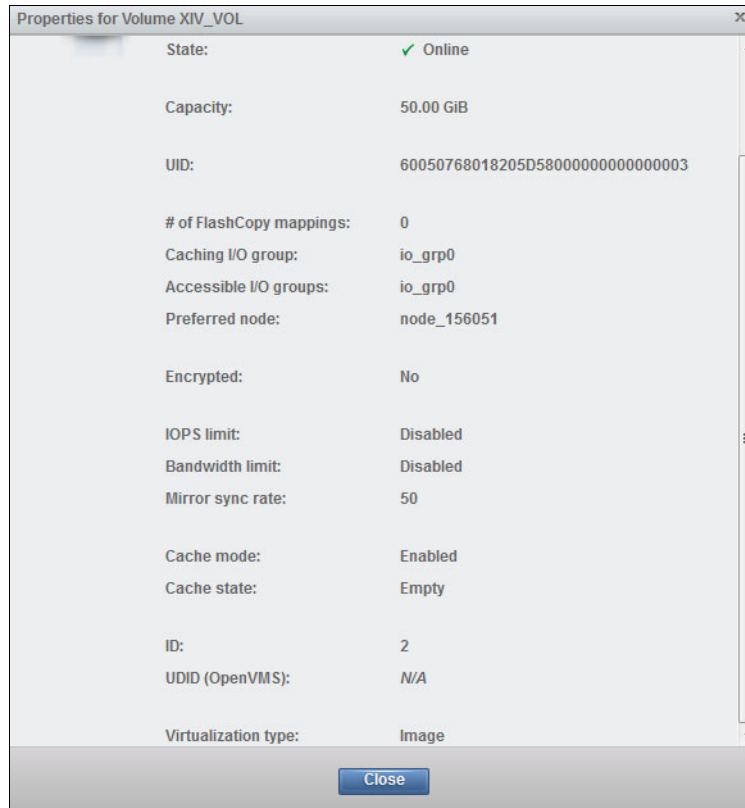

Figure 5-19 Confirming that the volume is in Image mode
5. Right-click the volume, and select **Properties** to open the Properties window, as shown in Figure 5-19 on page 79.